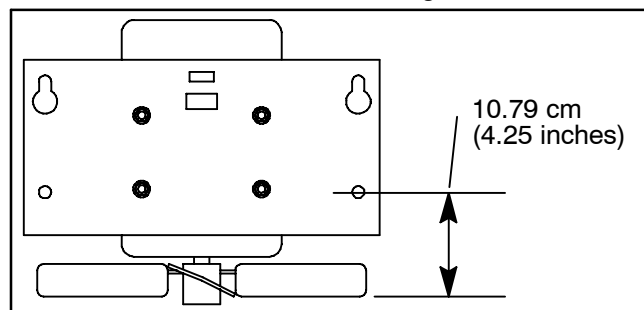

Figure 43. Evaporator Fan Locating Dimension
- d. Lubricate fan motor shaft with a graphite-oil solution (Never-Seez). Apply thread sealer (Loctite H, brown in color) to the two fan set screws. Install fan on motor. Locate at dimension shown in Figure 43.